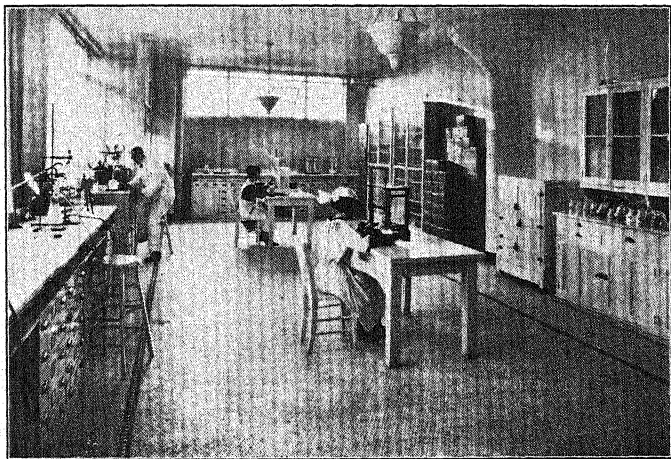

FIG. 1 — A light, well-ventilated, modern laboratory. The tiled floors and white, enameled woodwork make such a laboratory a pleasant place to work.
3. *Chemistry is vital to all industry.* The garage and the laundry are small laboratories where chemistry may be applied. In the kitchen the cook uses practical chemistry. This science teaches her why soda and sour milk will make palatable biscuits or pancakes; it will also teach her why soda and sweet milk make biscuits that are yellow and bitter. Our agricultural colleges study the applications of chemistry to soils and fertilizers, and pass their knowledge on to the farmer. The clothing which we use to protect our bodies is sponged, cleaned, or even fabricated by means of chemistry, while the beautiful colors with which textiles are dyed are the fruits of long hours of patient research by the color chemist. (See Fig. 1.)